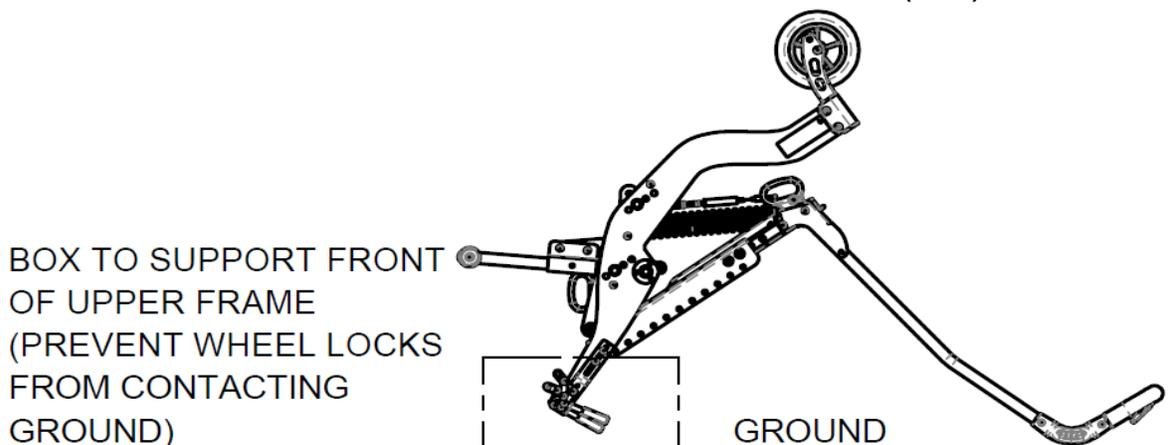

Figure 15.7: Recommended chair position for Height Adjustment
1. Remove the wheels, front rigging, and arms from the chair. Tip it forward so that it is resting on the back post and front rigging receivers as shown in Figure 15.7: Recommended chair position.